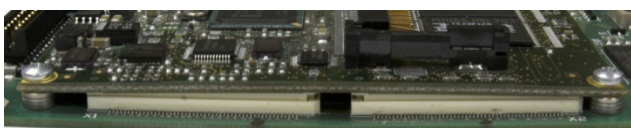

Figure 3-59: ETX Board Connectors Improperly Seated
- Note that simply installing the ETX board mounting screws will not seat the connectors properly – see Figure 3-59. Each connector must be pressed into place.